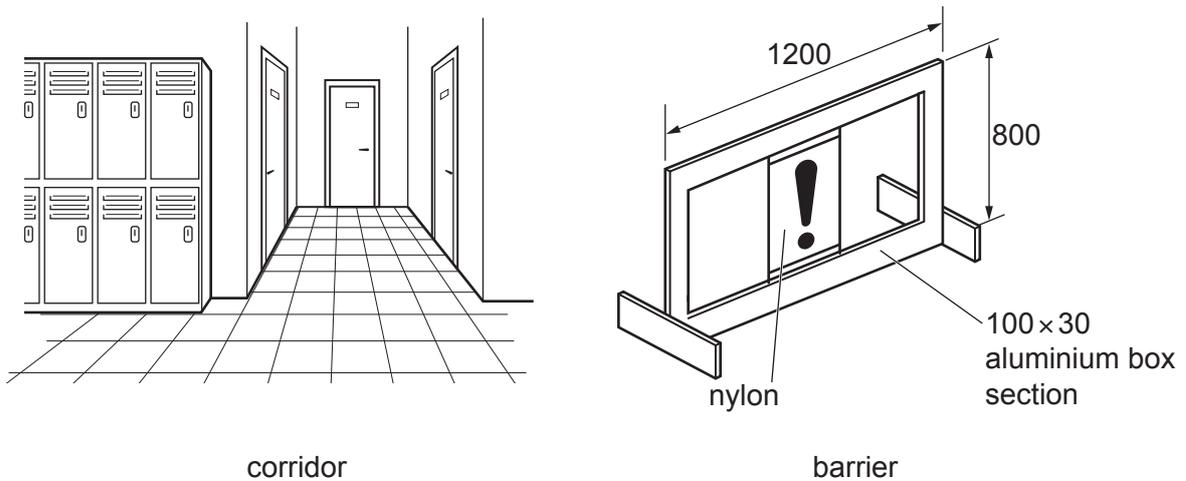

Fig. 9.1
- 9 Fig. 9.1 shows an incomplete design for a barrier to be used in a corridor when maintenance is taking place.